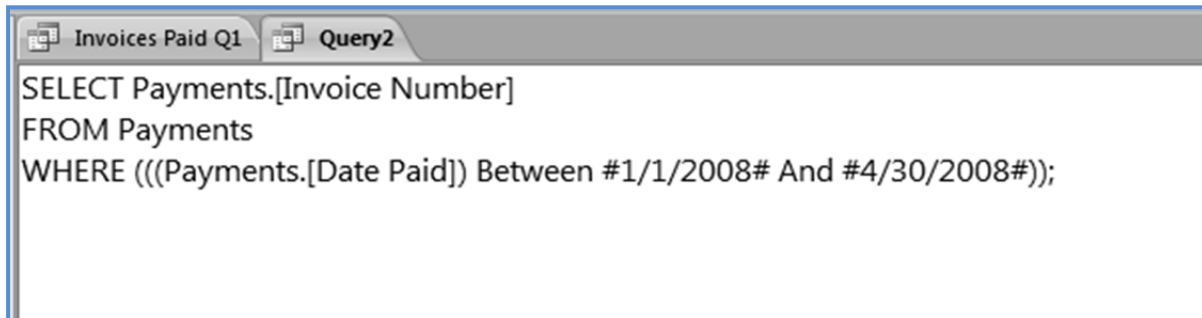

Fig. 1.2.9: Query SQL View
7. Click on **SQL View** from **Design -> Results -> View** drop-down to view the SQL statement of the query. The SQL statement appears for the query, as shown in Fig. 1.2.9.